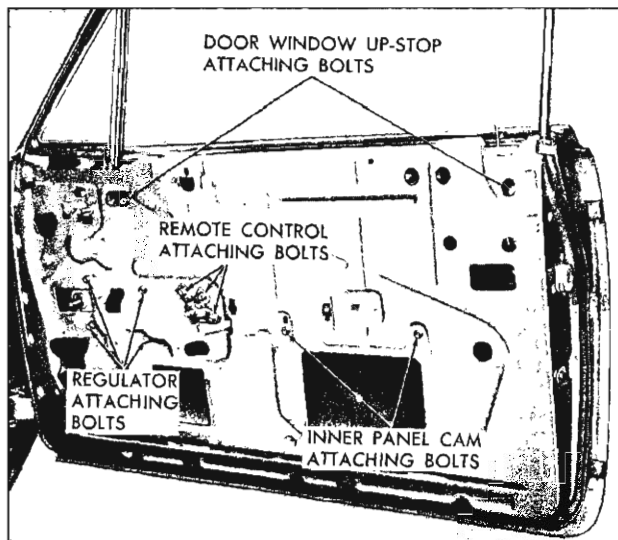

Fig. 27—Front Door Hardware—Hardtop Styles
2. Remove bolts securing door inner panel cam assembly and disengage cam from regulator balance arm and remove cam from door (fig. 27).
2. Remove remote control attaching screws and disengage remote control from connecting rod (fig. 27).
2. Through holes in inner panel, remove screw securing window assembly front and rear stops to lower window sash channel. Then lower window slightly and remove stops (fig. 27).
1. To correct a condition where glass is "cocked" in glass run channels, loosen inner panel cam attaching screws, adjust cam up or down as required and retighten screws (fig. 27).
5. To adjust limit of "up" travel of window assembly for proper contact with side roof rail weatherstrip, raise door window and through inner panel access holes loosen door window front and rear stop assembly attaching bolts. Adjust stops up or down as required, then tighten attaching bolts (fig. 27).